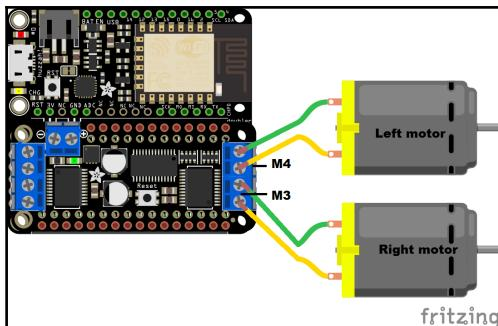

Figure 8.8: Wiring gear motors with DC Motor FeatherWing
6. Connect the wires from the DC motors with the DC Motor FeatherWing. Connect the left motor with the M4 terminal block and the right motor with the M3 terminal block (*Figure 8.8*):